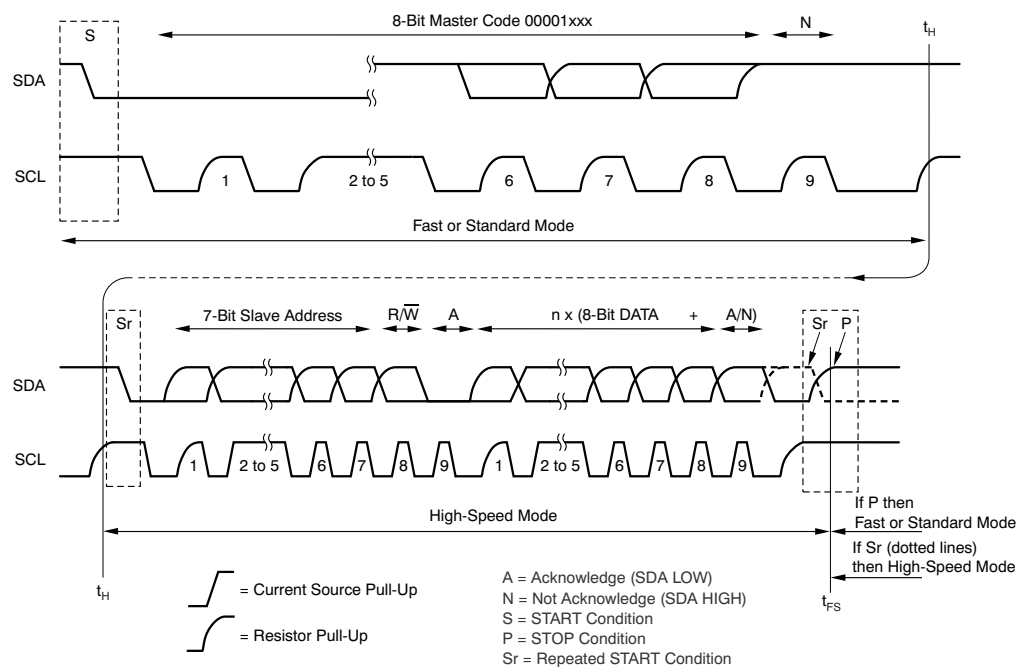

Figure 30. Complete High-Speed Mode Transfer
When the bus master sends the address byte with $\text{R}/\overline{\text{W}}$ bit = 0, and the TSC2007 sends an acknowledge, the pen-interrupt function is disabled. If the command that follows the address byte contains $\text{PD0} = 0$, then the pen-interrupt function will be enabled at the end of a conversion. This is approximately 100 μs (12-bit mode) or 50 μs (8-bit mode) after the TSC2007 receives a STOP/START condition, following the receipt of a command byte (see Figure 31 and Figure 30 for further details about when the conversion cycle begins).
1. START condition (S)
3. Not-acknowledge bit (N)
Figure 30 shows this sequence in more detail. Hs-mode master codes are reserved 8-bit codes used only for triggering Hs mode, and are not to be used for slave addressing or any other purpose. The master code indicates to other devices that an Hs-mode transfer is about to begin and the connected devices must meet the Hs mode specification. Because no device is allowed to acknowledge the master code, the master code is followed by a not-acknowledge bit (N).
After the not-acknowledge bit (N) and SCL have been pulled-up to a HIGH level, the master switches to Hs-mode and enables the current-source pull-up circuit for SCL (at time t_H ; shown in Figure 30). Because other devices can delay the serial transfer before t_H by stretching the LOW period of SCL, the master enables the current-source pull-up circuit when all devices have released SCL, and SCL has reached a HIGH level, thus speeding up the last part of the rise time of the SCL.